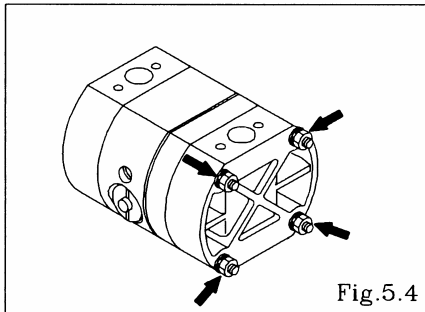

Fig.5.4
See [9. Exploded View] on after p.11. (Fig. 5.4, 5.5 and 5.6 show the NDP-5 FPT.)
- Remove the 8 (12 on the NDP-15) retainer nuts from the out chamber, and remove the out chamber. [Fig.5.4]